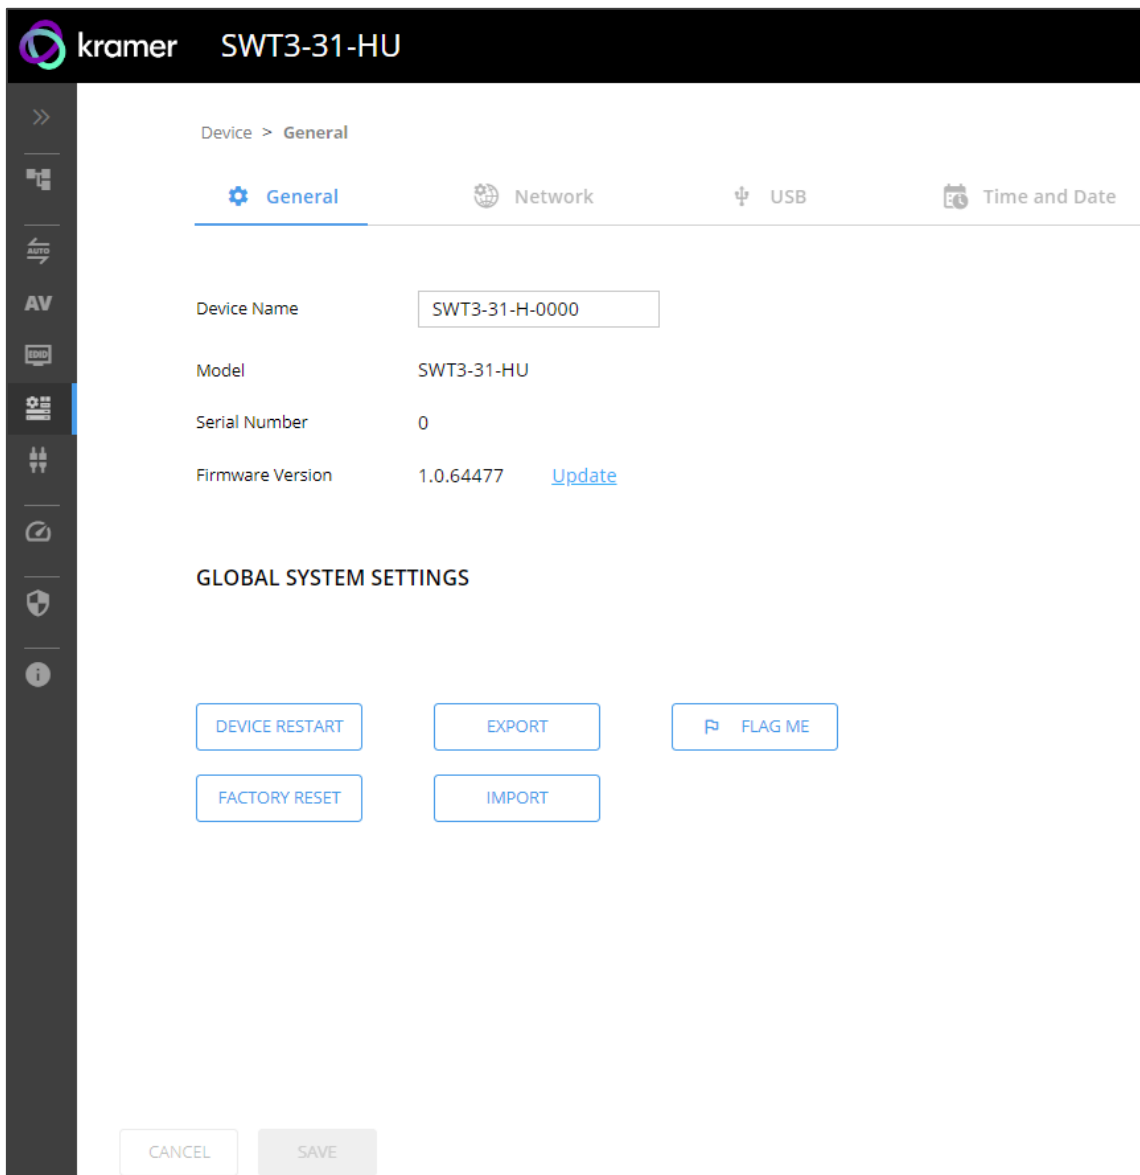

Figure 21: Device > General Page
1. Go to the **Device > General** page (Figure 21).
- Click **DEVICE RESTART** on the **Device > General** page (Figure 21).
- Click **FACTORY RESET** on the **Device > General** page (Figure 21).
1. Go to the **Device** > **General** page (Figure 21).